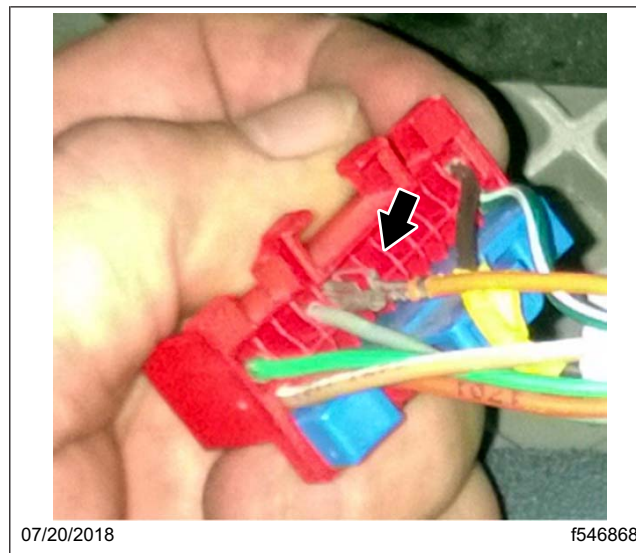

Fig. 8, Inserting the NewWire
14. Route the 50 inch (127 cm) orange wire through dash, and attach it to the pin where wire 376N was removed, then connect the lock. Coil & secure any excess wiring. See Fig. 8.